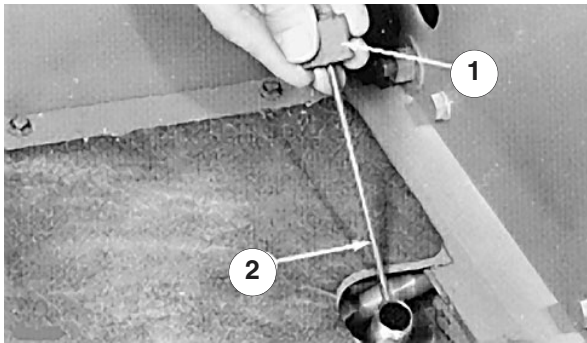

Figure 6
2. Unscrew the dipstick cap (Fig. 6) from the filler neck and wipe it with a clean cloth. Screw the dipstick cap finger-tight onto the filler neck, then
unscrew the dipstick and check the oil level. If the level is not within ½ in. (13 mm) from the groove in the dipstick (Fig. 6), add enough oil to raise the level to the groove mark. **Do not overfill** by more than ½ in. (13 mm) above the groove.